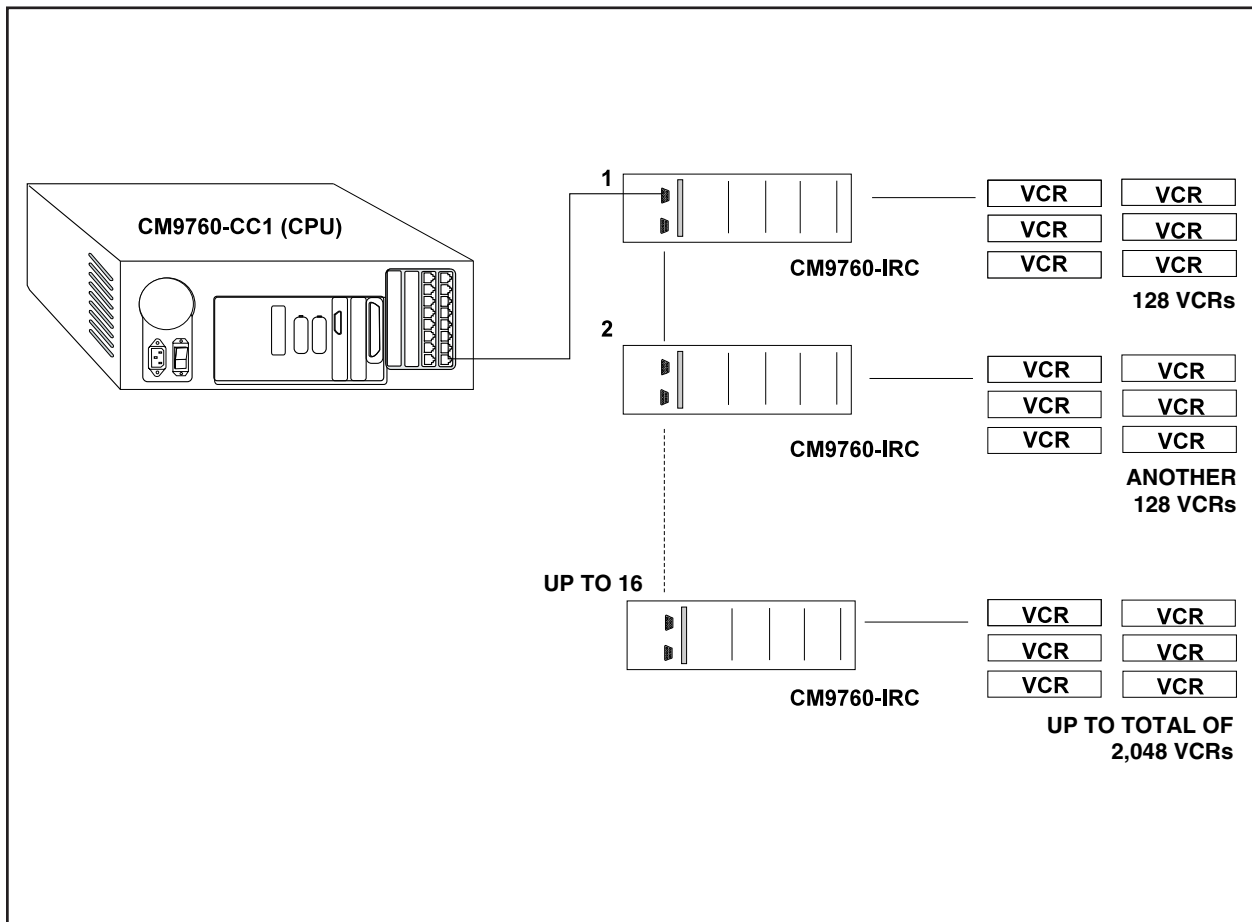

Figure 2. VCR Hook-up Parameters
- Up to 16 IRC units can be linked in sequence (that is, daisy-chained) giving control of up to 2,048 VCRs (refer to Figure 2)